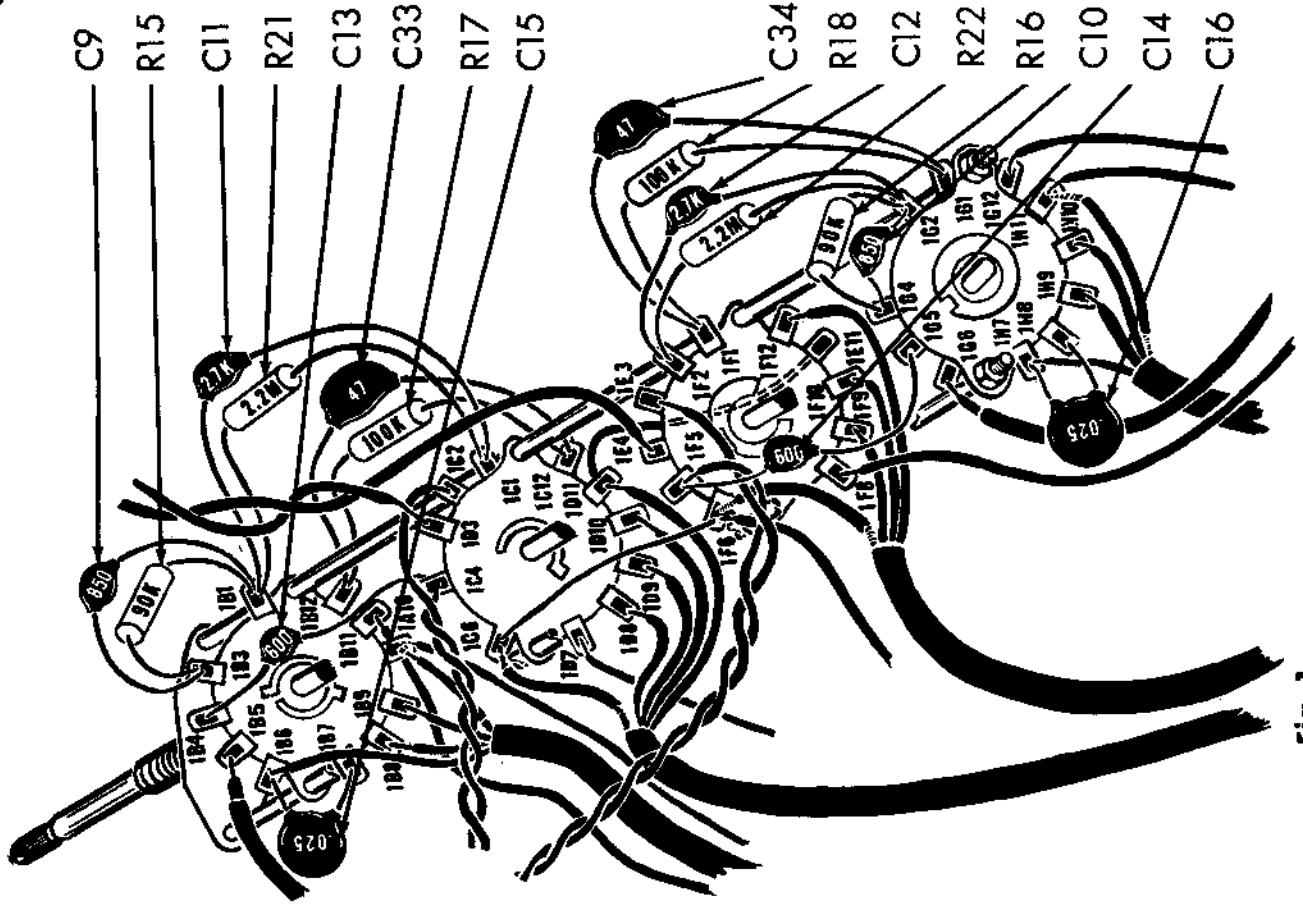

Fig. 1
1. () Fig. 1. Cut all leads on two .025 mfd (25K or 25,000 mmf) disc capacitors, C15 and C16, to 3/4". Cover each lead with a 1/2" piece of spaghetti. Connect C15 from S1B-6 (C) to S1B-7 (S1). Connect C16 from S1H-7 (Q) to S1H-8 (S4).
2. () Fig. 1. Cut all leads on two 90KΩ (white, black, orange, gold) 5% resistors, R15 and R16, to 1/2". Connect R15 from S1B-3 (Q) to S1B-1 (Q). Connect R16 from S1G-2 (Q) to S1G-4 (C).
3. () Fig. 1. Cut all leads on two 850 mmf disc capacitors, C9 and C10, to 3/4". Connect C9 from S1B-3 (S2) to S1B-1 (Q). Connect C10 from S1G-2 (Q) to S1G-4 (S2).
4. () Fig. 1. Cut all leads on two 2.2MΩ (red, red, green, silver) 10% resistors, R21 and R22, to 1/2". Connect R21 from S1B-1 (S) to S1C-1 (Q). Connect R22 from S1F-2 (Q) to S1G-2 (Q).
5. () Fig. 1. Cut all leads on two .0027 mfd (2.7K or 2700 mmf) disc capacitors, C11 and C12, to 1/2". Cover each lead with a 1/4" piece of spaghetti. Connect C11 from S1B-1 (S4) to S1C-1 (S2). Connect C12 from S1F-2 (S2) to S1G-2 (S4).
6. () Fig. 1. Cut all leads on two 100KΩ (brown, black, yellow, silver) 10% resistors, R17 and R18, to 1/2". Connect R17 from S1B-12 (Q) to S1C-12 (Q). Connect R18 from S1F-1 (C) to S1G-1 (Q).
7. () Fig. 1. Cut all leads on two 47 mmf disc capacitors, C33 and C34, to 3/4". Connect C33 from S1B-12 (S2) to S1C-12 (S2). Connect C34 from S1F-1 (S2) to S1G-1 (S2).
8. () Fig. 1. Cut all leads on two 600 mmf disc capacitors, C13 and C14, to 3/4". Connect C13 from S1B-4 (S1) to S1C-4 (Q). Connect C14 from
9. () Fig. 1. Strip back the outer insulation 1 1/2" from one end of an 8" piece of 3 conductor shielded cable. Twist the shield strands together and cover with a 1 1/4" piece of thick spaghetti. Cut the brown lead to 1 1/4", the red lead to 3/4" and the orange lead to 1". Strip back the insulation 1/4" from the end of each of these leads. Connect the brown lead to S1B-6 (S2), the red lead to S1B-8 (S1), the orange lead to S1B-9 (S1) and the twisted shield strands to S1A-10 (S). On the other end of the same piece of shielded cable, strip the outer insulation back 3/4". Twist the shield strands together. Strip back the insulation 1/4" from the end of each of the inner conductors. This end of the cable does not get connected until later.
10. () Fig. 1. Connect one end of a 3 1/2" piece of black wire to S1A-10 (S2).
11. () Fig. 1. Strip back the outer insulation 1 3/4" from one end of an 8" piece of the 4 conductor shielded cable. Twist the shield strands together and cover with a 1 1/2" piece of thick spaghetti. Cut the brown, red and orange leads to 3/4", each and the yellow lead to 1 1/4". Strip back the insulation 1/4" from the end of each of these leads. Connect the brown lead to S1D-8 (S), the red lead to S1D-9 (S), the orange lead to S1D-10 (S) and the yellow lead to S1D-11 (S). Connect a 1" piece of bare wire from S1D-11 (S) to S1E-11 (S). Connect the twisted shield strands to S1C-6 (S). On the other end of the same piece of shield cable, strip the outer insulation back 1 1/4". Twist the shield strands, cut to 3/4" and cover with 1/2" piece of spaghetti. Cut the red, brown, orange, and yellow leads to 1". Strip back the insulation 1/4" from the end of each of the inner conductors. This end of the cable does not get connected until later.
12. () Fig. 1. Strip back the insulation 1 3/4" from one end of a 6 1/2" piece of 3 conductor shield cable. Twist the shield strands together and cover with a 1 1/2" piece of thick spaghetti. Cut the brown and red leads to 3/4" and the orange lead to 1". Strip back the insulation 1/4" from the end of each of these leads. Connect the orange lead to S1F-12 (S), the red lead to S1F-10 (S), the brown lead to S1F-9 (S) and the twisted shield strands to S1F-6 (S). On the other end of the same piece of shielded cable, strip the outer insulation back 1 1/4". Twist the shield strands. Cut the shield strands, red lead and orange lead to 3/4" and the brown lead to 1". Cover shield strands with 1/2" piece of spaghetti. Strip back the insulation 1/4" from the end of each of the inner conductors. This end of the cable does not get connected until later.
13. () Fig. 1. Connect one end of a 4 1/2" piece of black wire to S1F-6 (S).
14. () Fig. 1. Connect a 1 1/2" piece of bare wire from S1C-6 (S) to S1F-6 (S).
15. () Fig. 1. Strip back the outer insulation 1 1/4" from one end of a 6 1/2" piece of 3 conductor shield cable. Twist the shield strands together,
16. () Fig. 1. Connect one end of a 4" piece of black wire to S1H-11 (S).
17. () Fig. 1. Connect one end of a 2 1/2" piece of grey wire to S1B-11 (S).
18. () Fig. 1. On one end of a 4" piece of single conductor shielded cable, strip the outer insulating back 1/2". Twist the shield strands together and cut off. Strip back the inner insulation 1/4" and connect to S1B-5 (S). On the other end of the same piece of shielded cable, strip back the outer insulation 3/4". Twist the shield strands together. Strip back the inner insulation 1/4". This end of the cable does not get connected until later.
19. () Fig. 1. Connect one end of a 4" piece of brown wire to S1D-7 (S).
20. () Fig. 1. Connect one end of a 3" piece of brown wire to S1F-8 (S).
21. () Fig. 1. On one of a 3" piece of single conductor shielded cable, strip the outer insulated back 1/2". Twist the shield strands together and cut off. Strip back the inner insulation 1/4" and connect to S1G-6 (S). On the other end of the same piece of cable, strip the outer insulation back 3/4". Twist the shield strands together. Strip back the inner insulation 1/4". This end of the cable does not get connected until later.
22. () Fig. 1. Connect one end of a 3" piece of grey wire to S1G-12 (S).
23. () Fig. 1. Connect one end of a 5" piece of grey wire to S1D-3 (S) and one end of a 5" piece of yellow wire to S1E-4 (S). Twist the two leads together loosely.
24. () Fig. 1. Connect one end of a 4 1/2" piece of green wire to S1C-2 (S) and one end of a 4 1/2" piece of blue wire to S1C-4 (S). Twist the two leads together.
25. () Fig. 1. Connect one end of a 5 1/2" piece of violet wire to S1E-3 (S) and one end of a 5 1/2" piece of white wire to S1F-5 (S). Twist the two leads together.